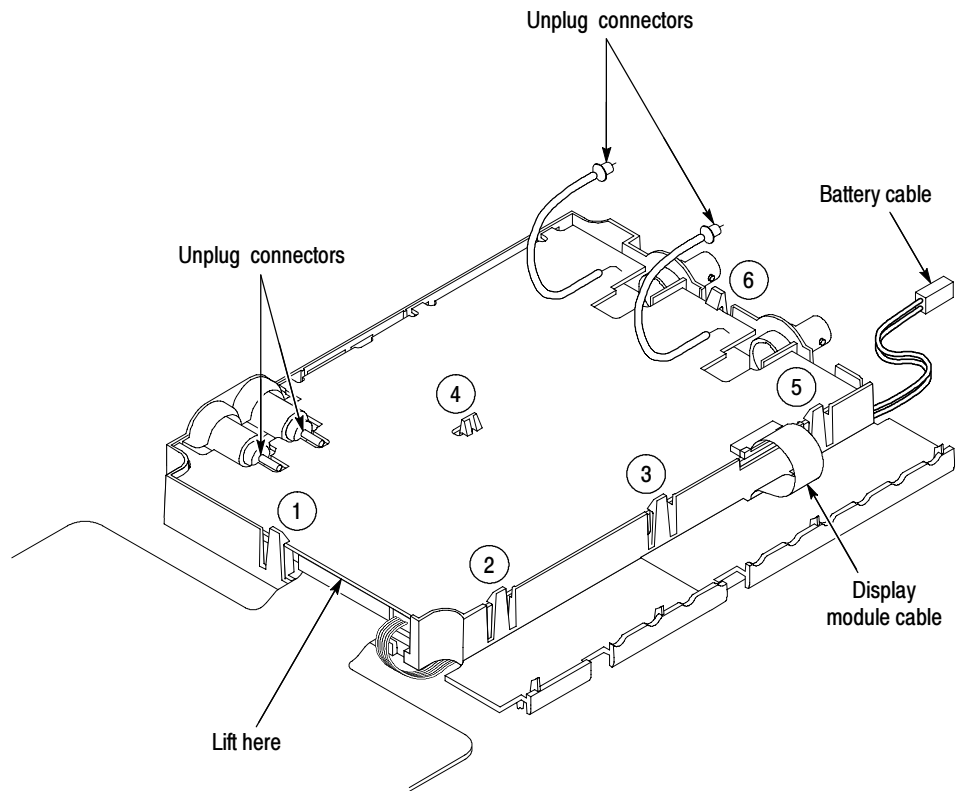

Figure 24: Removing the main board and switch flex-circuit assembly
- d. Following the sequence (circled numbers) shown in Figure 24, lift gently on the edges of the main board while releasing the board-retaining snaps.